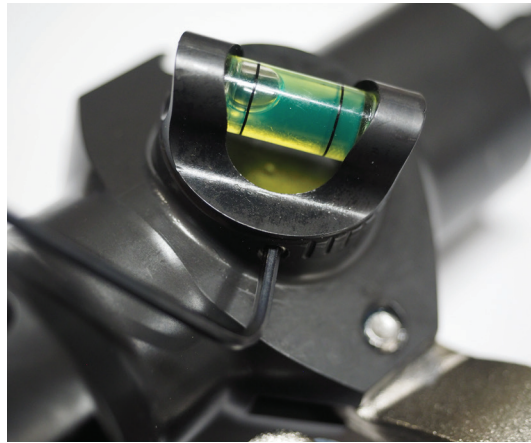

Fig. 4.1 Loosen the two grub screws with the Allen key to adjust the angle setter.
4.1 Loosen the two grub screws on the angle setter with the supplied Allen key until you can freely turn the angle setter (**Fig. 4.1**).